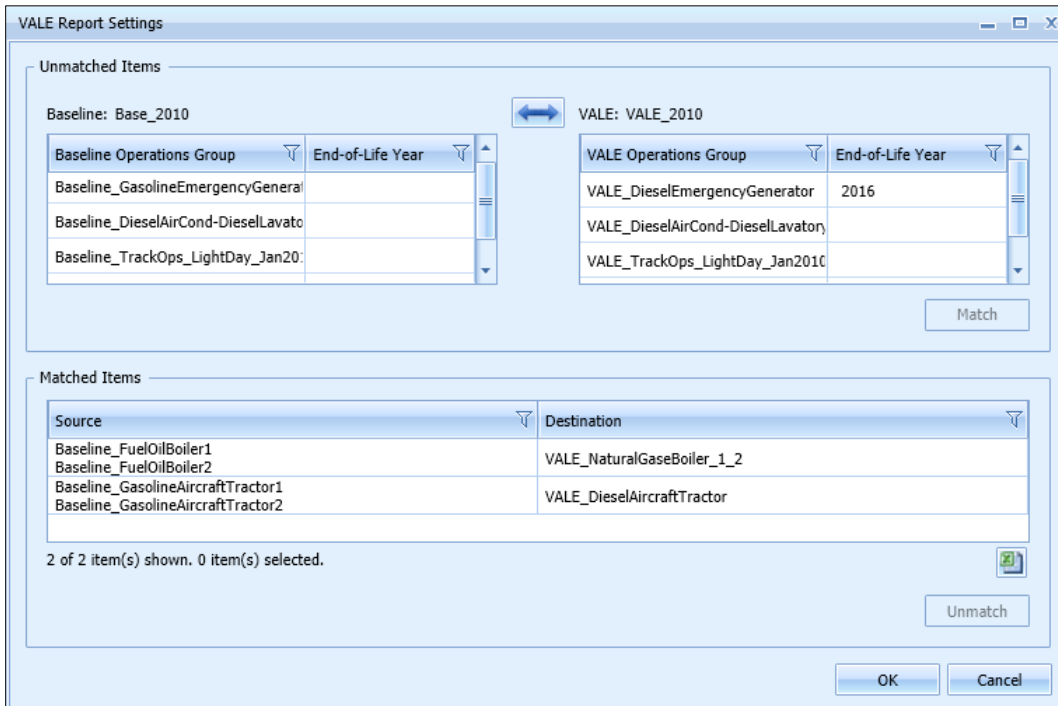

Figure 5-51 Sample VALE Report Settings Dialog
2. From the *View Reports* ribbon group, click *VALE Report* to open the *VALE Report Settings* dialog (Figure 5-51).